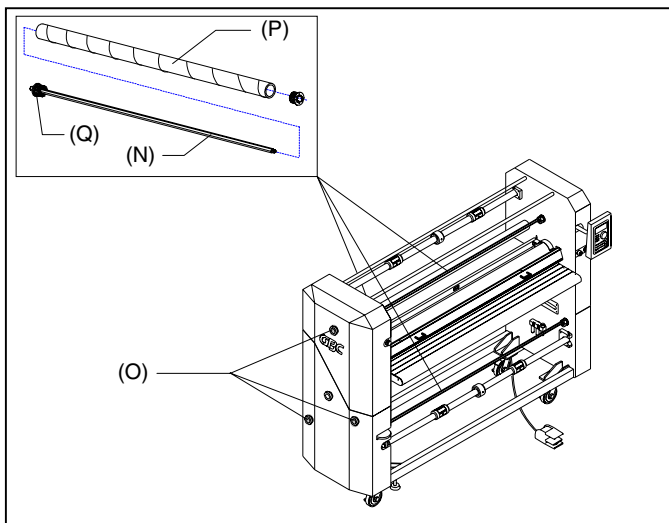

Fig. 15
N. REWIND SHAFT: (Figure 15) The rewind shaft holds the rewind tube on the machine.
O. REWIND BRAKE: (Figure 15) Located on the left side from the front operating position.
P. REWIND TUBE: (Figure 15) The two rewind tubes located at the front of the machine are used to rewind release liners. The one located at the rear of the machine is used to rewind the finished product.
Q. REWIND ADAPTORS: (Figure 15) Hold and lock the rewind tube on the rewind shafts to prevent side to side shifting.